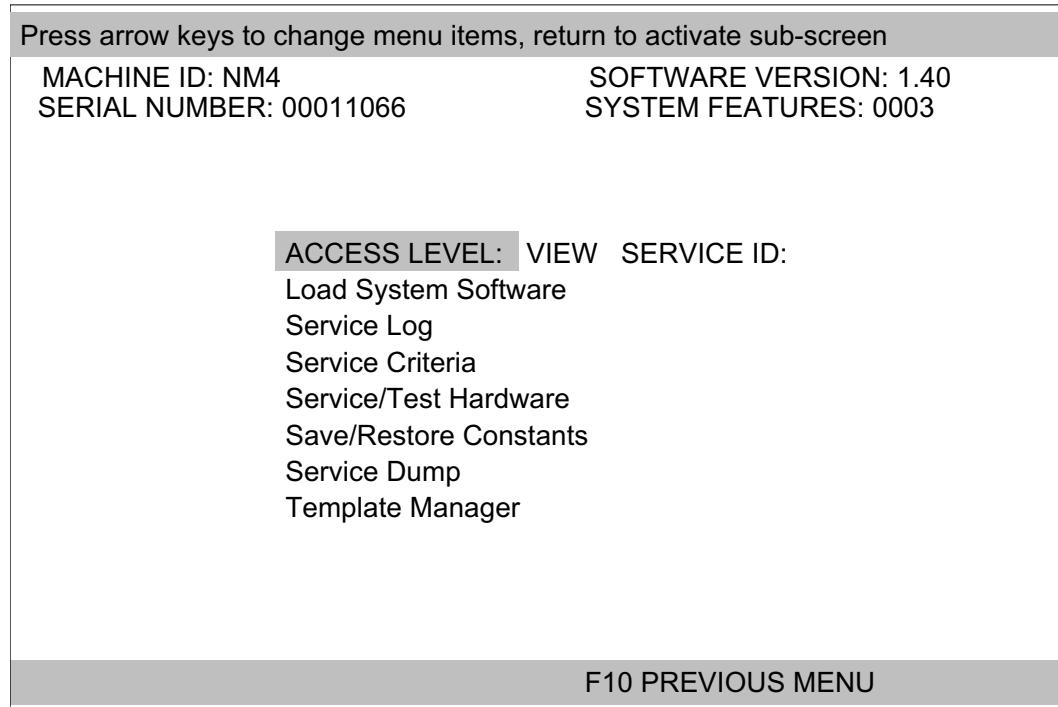

Figure 7-8: PRIMARY SERVICE MENU
- 7.4.5 Select Load System Software from the Primary Service menu (Figure 7-8); The software load screen shown in Figure 7-9 appears.
7.5.3 Select Load System Software from the Primary Service menu (Figure 7-8); The software load screen shown in Figure 7-9 appears.
At the SST Main Menu, move the cursor to ENTER PRIMARY SERVICE and press ENTER. Software installation and other service functions are entered through this screen, shown in Figure 7-8.